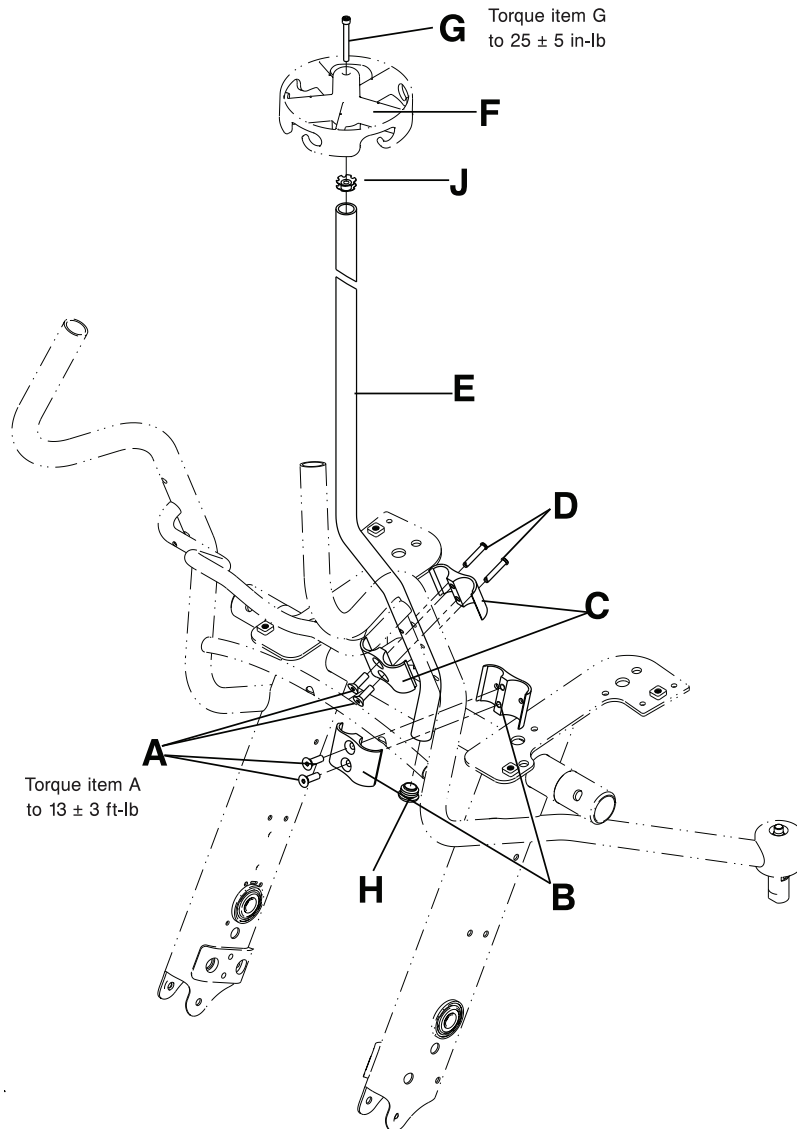

Figure 1-31: IV pole replacement
2. Using a 3/16" hex wrench, remove the socket head cap screw (G) from the center of the IV pole topper (F) (Figure 1-31 on page 1-49). Save the screw.
3. Tap and push up on the IV pole topper (F) (Figure 1-31 on page 1-49) to remove the topper. Save the IV pole topper.
4. Using a small slotted screwdriver, remove the tube plug (H) from the bottom of the IV pole (E) (Figure 1-31 on page 1-49). Save the tube plug.
5. Using a 3/16" hex wrench, remove the two flat head cap screws (A) to remove the lower IV pole clamps (B) from the chair frame (Figure 1-31 on page 1-49). Save the screws and clamps.
6. Using a 3/16" hex wrench, remove the two flat head cap screws (A) that secure the upper IV pole clamps (C) to the chair frame. Remove the clevis pins (D) and clamps (C). Save the screws, clevis pins, and clamps. Discard the IV pole (E) (Figure 1-31 on page 1-49).
2. Insert the supplied umbrella nut (0018-045-000) (J) into the top of the IV pole (E) (Figure 1-31 on page 1-49). The top of the umbrella nut should be about 1/2" from the top of the IV pole.
3. Insert the supplied tube plug (0037-225-000) (H) into the bottom of the IV pole (E) (Figure 1-31 on page 1-49).
4. Position the IV pole topper (F) on the IV pole (E) and use the palm of your hand to tap the topper until the topper is seated on the IV pole (E) (Figure 1-31 on page 1-49).
5. Using a 3/16" hex wrench, install the supplied socket head cap screw (0004-672-000) (G) to secure the IV pole topper to the pole. Using a 3/8" drive torque wrench (in-lb), torque the screw to 25 ± 5 in-lb.
7. Insert the supplied clevis pins (0026-349-000) (D) into the front of the supplied upper IV clamp (removed in step 6).
10. Using a 3/16" hex wrench and the supplied flat head cap screws (0001-210-000) (A), install the back of the upper IV clamp onto the IV pole and front of the upper IV clamp. Using a 3/8" drive torque wrench (ft-lb), torque the screws to 13 ± 3 ft-lb.
11. Using a 3/16" hex wrench and the supplied flat head cap screws (0001-210-000) (A), install the supplied lower IV clamp front and back onto the IV pole. Using a 3/8" drive torque wrench (ft-lb), torque the screws to 13 ± 3 ft-lb.